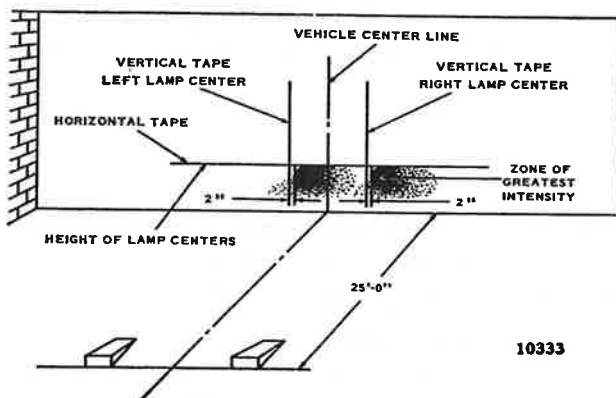

FIG. 171—HEADLIGHT AIMING CHART FOR 6000-SERIES LAMPS
b. Turn the vertical aiming screw counterclockwise until the lamp beam is considerably lower than the horizontal reference line on the screen. Then, turn the screw clockwise until the top edge of the high intensity area is even with the horizontal line. See Fig. 171.
intensity area is 2" [50,8 mm.] to the right of the lamp center line. See Fig. 171.